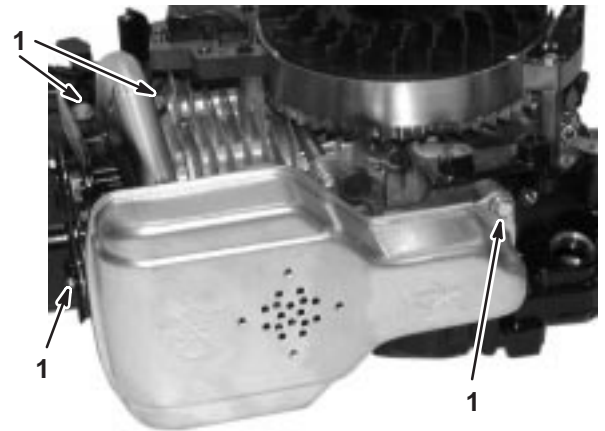

Fig. 150 – Removing Muffler
5. Remove two screws holding exhaust pipe flange to cylinder head, one (1) screw holding muffler bracket to cylinder head, and one (1) screw holding muffler to cylinder and remove muffler assembly, Fig. 150.